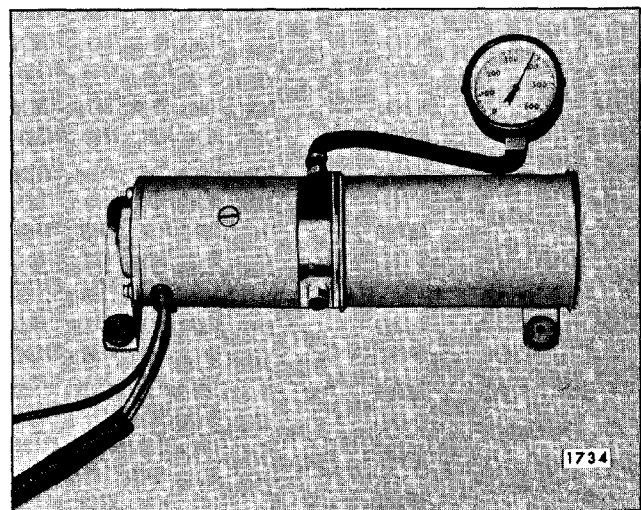

Fig. 6-68—Checking Pump Pressure
- b. Install plug in one port, and pressure gauge in port to be checked. See Figure 6-68.